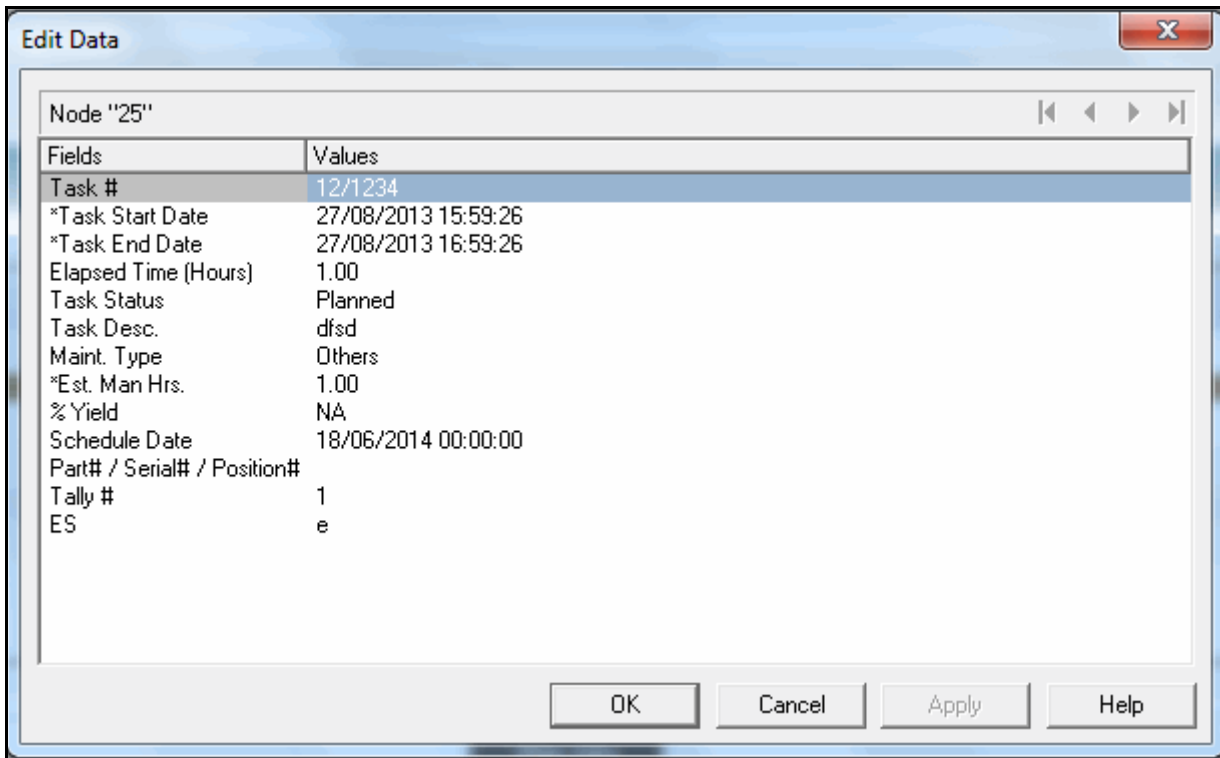

Figure 2.17 Edit task
1. Double-click the time bar of the task # that you want to modify, in the Gantt chart. A window appears with the details of the task. See Figure 2.17.